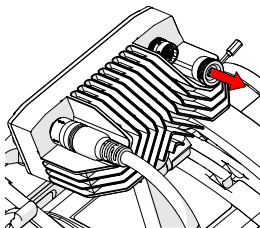

Fig. 36 - Remove satellite socket cap
3. Remove the satellite socket cap from the camera (Fig. 36).